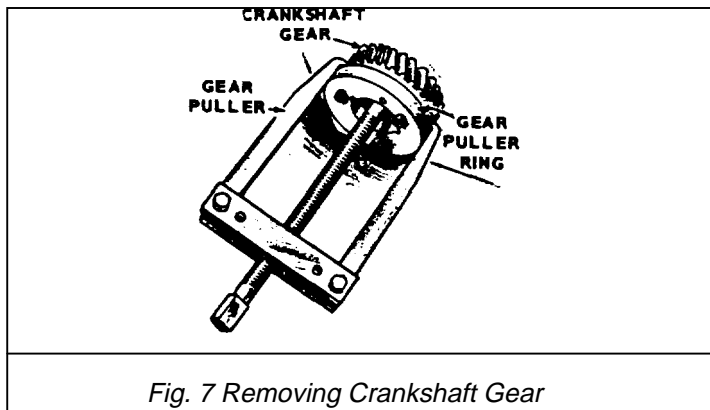

Fig. 7 Removing Crankshaft Gear
- (1) Remove the lock ring and retaining washer in front of the crankshaft gear.
- (2) Pull off the crankshaft gear. It has 2-1/4- 20 UNC tapped holes for attaching a gear pulling ring. Use care not to damage teeth if the gear is to be re-used. (Fig. 7).
- (3) Remove the oil pan, piston, and connecting rod.
- (4) Remove the rear bearing plate from the crankcase.
- (5) Remove the crankshaft through the rear opening in the crankcase.